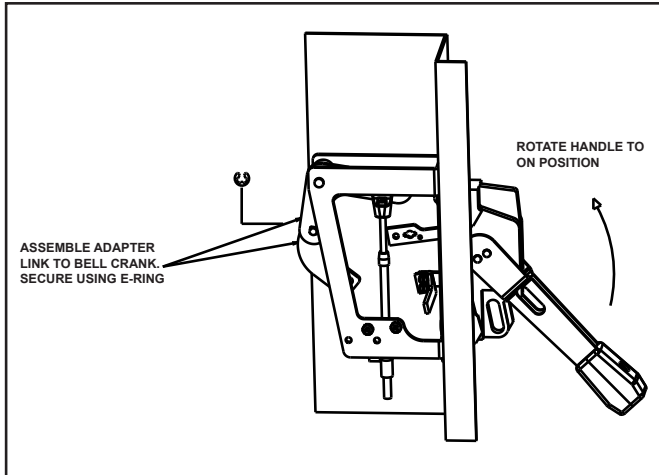

Fig. 1-5 Assembly of Adapter Link to Bell Crank.
4. Insert the adapter link into the pin of the bell crank via the largest hole in the link. See Fig 1-5. Secure the adapter link by inserting the E-ring into the slot on the bell crank pin.